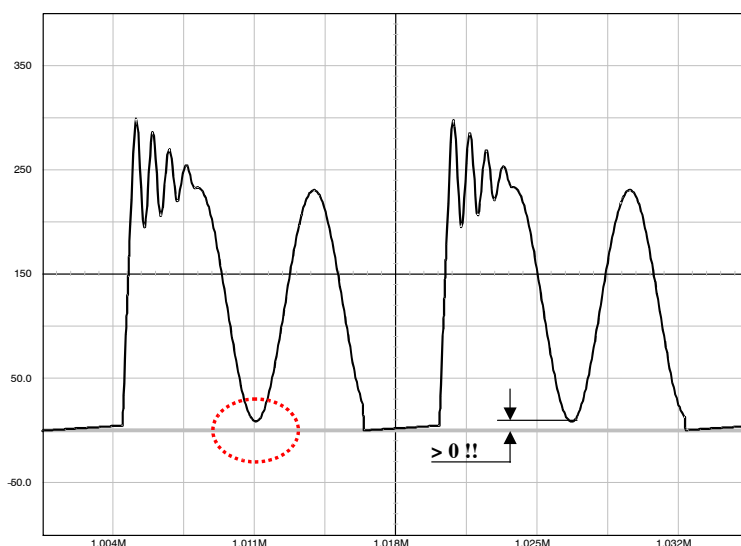

Figure 25. The Drain–Source Wave Shall Always be Positive . . .
1. In any case, the lateral MOSFET body-diode shall never be forward biased, either during start-up (because of a large leakage inductance) or in normal operation as shown by Figure 25.